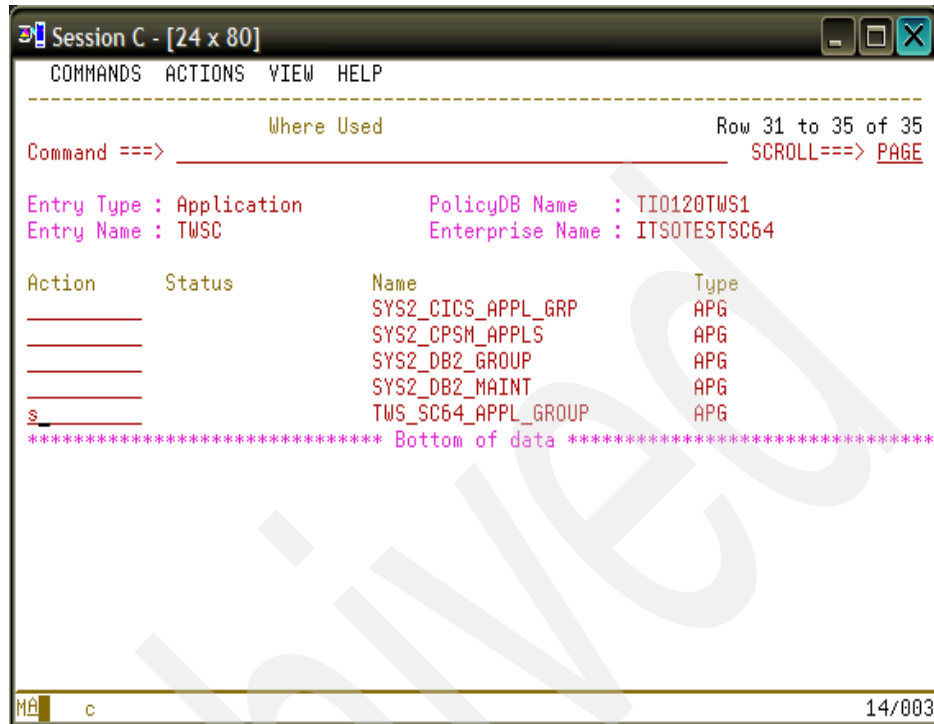

Figure 4-24 Where Used panel for TWS for z/OS controller
6. Select the **WHERE USED** policy. The Where Used panel that is shown in Figure 4-24 on page 127 displays. You can scroll this panel to see all the names that are displayed.